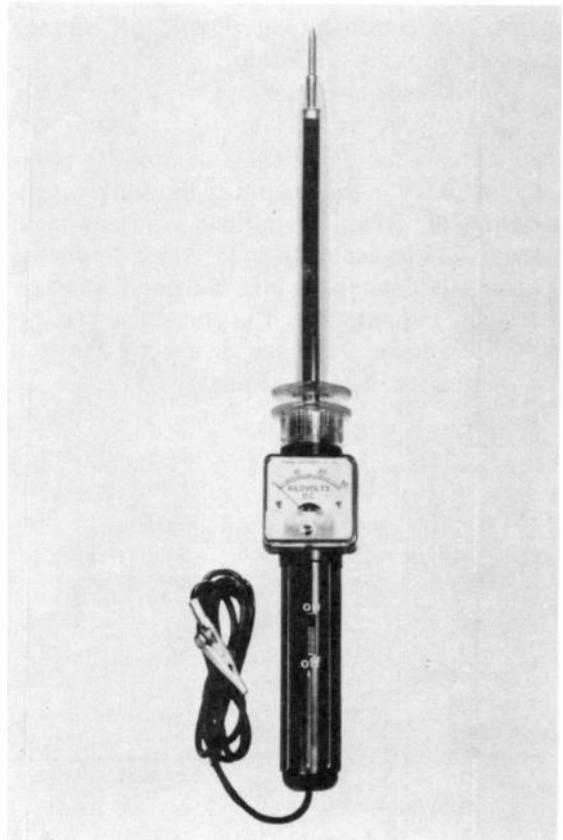

FIGURE 12-28 VOLTMETER FOR MEASURING CRT HIGH VOLTAGE ON ANODE. LENGTH IS 15 IN. MULTIPLIER RESISTANCE IN PROBE IS 600 MΩ. (POMONA ELECTRONICS)
2. Connect high-voltage probe (Fig. 12-28) to measure anode voltage.